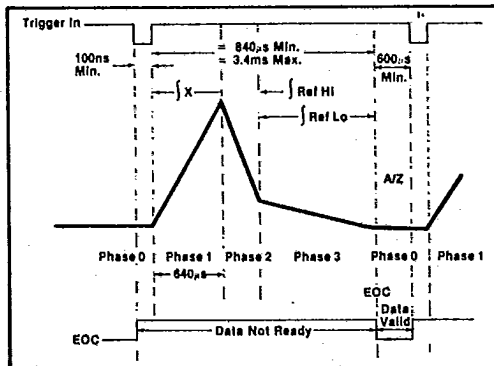

Figure 2. Quadraphasic Timing Waveforms.
0.1 μs min., negative pulse, TTL compatible, must drive 6 loads; 3 CMOS and 3 low-powered Schotky. Conversion starts on positive transition. See Figure 2
When the trigger pulse is received, the low level transition causes the counters to be reset to zero. The rising edge generated by the return of the pulse to a positive level triggers the converter, and phase 1 begins. The input signal (and any stored AZ offset) is integrated for a period of 640 μs . Program control shifts the unit into phase 2, where the input signal is replaced by a high current, opposite polarity reference. This discharges the integrating capacitor at a high rate as shown in Figure 2. During this phase, the counters are incremented beginning with B9 counting up to B1 (MSB).